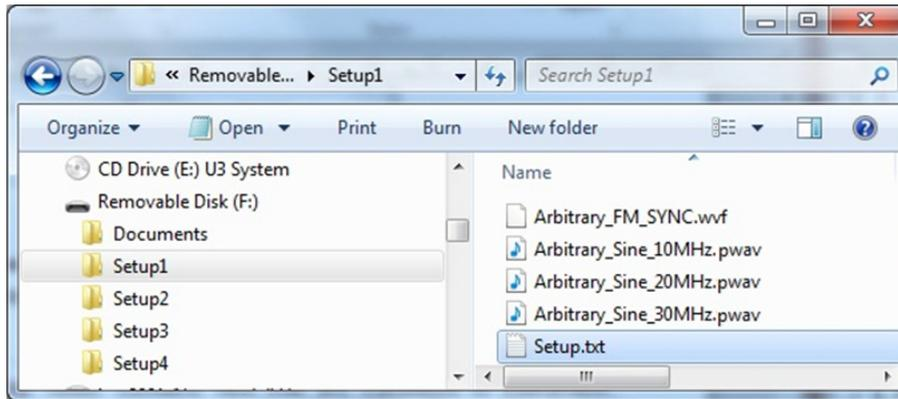

Figure 5-6, Store/Recall Folders Structure Example
The simplest option is of course to start with an empty stick. The folders must be placed in the root directory. Each setup is stored in a separate folder and each setup folder must have a unique name that associates itself with the cell number. For example, folder name Setup1 is legal but folder name Setup5\_created\_May\_2011 is illegal. Figure 5-6 shows legal folder names for using the stored data on a USB stick.
In Figure 5-6, note that each setup is stored in a separate folder. Folders are named Setup1 through Setup4. Setup1 contains three files: Setup.txt, which includes instrument settings, Arbitrary\_Sine\_10MHz.pwav, Arbitrary\_Sine\_20MHz.pwav and Arbitrary\_Sine\_30MHz.pwav, which contain waveform coordinated in binary format for generating arbitrary waveforms and Arbitrary\_FM\_SYNC.wvf, which contains waveform data for the arbitrary FM function. Instructions how to use setup file names is given in the following.
**User\_Wave.pwav** – is a binary file that contains arbitrary waveform coordinates in binary format. Information how to create this file is given in this chapter. Another option to create this file easily is using the waveform composer in ArbConnection. Information how to use ArbConnection to generate an arbitrary waveform is given in Chapter 4. Note in Figure 5-6 that three arbitrary waveform files are shown; each is downloaded to a different segment so the setup file has provisions to define and accept data for three different segments. The following paragraphs will show examples how this can be done.
waveform is given in Chapter 4. Note in Figure 5-6 that there is only one arbitrary FM waveform file shown and this is because the PM8572A can generate only one arbitrary FM function at a time.